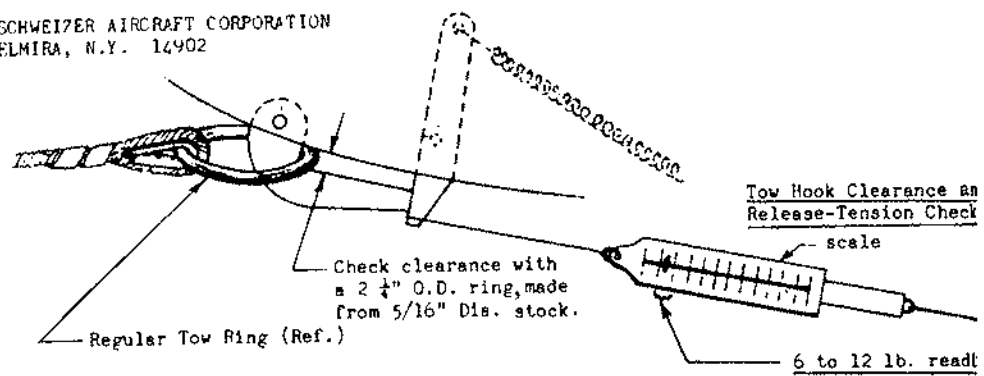

FIGURE 2.
- d. Tow hook release spring tension is checked by applying a force of 6-12 lbs. at the end of the release arm. The hook should then release. If the tension is not within this tolerance, the spring should be replaced. See Figure 2.
- c. Check release mechanism by applying a force of 6-12 lbs. Ref. paragraph B. 3. d. and Figure 2.